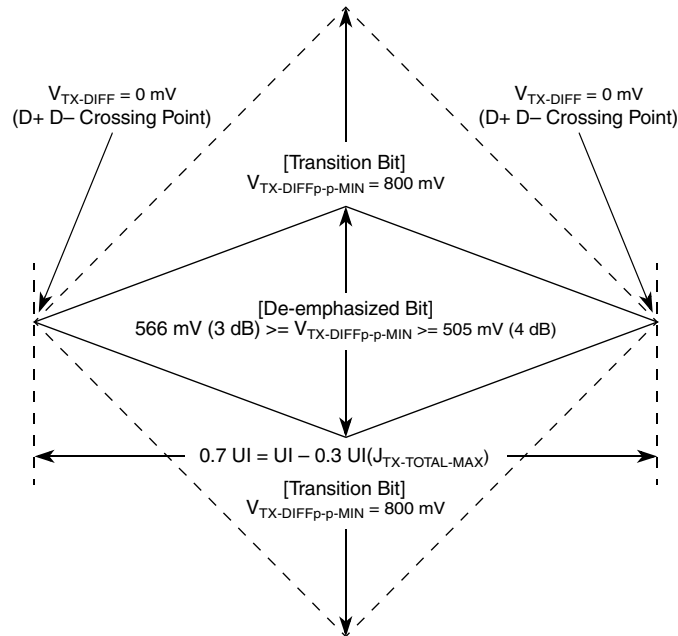
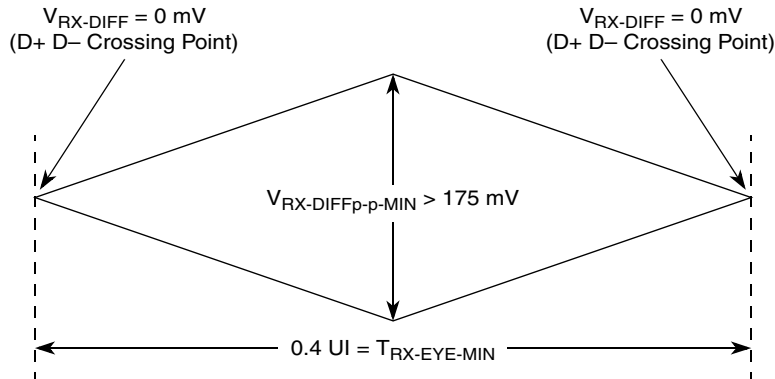
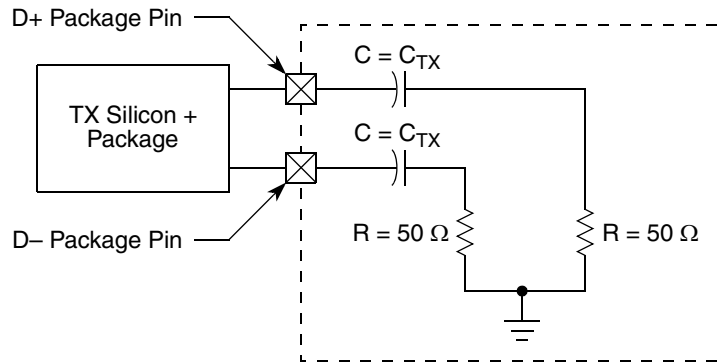

Figure 42. Minimum Transmitter Timing and Voltage Output Compliance Specifications
Figure 43. Minimum Receiver Eye Timing and Voltage Compliance Specification
Figure 44. Compliance Test/Measurement Load
2. Specified at the measurement point into a timing and voltage compliance test load as shown in Figure 44 and measured over any 250 consecutive Tx UIs. (Also refer to the transmitter compliance eye diagram shown in Figure 42.)
4. The transmitter input impedance will result in a differential return loss greater than or equal to 12 dB and a common mode return loss greater than or equal to 6 dB over a frequency range of 50 MT/s to 1.25 GHz. This input impedance requirement applies to all valid input levels. The reference impedance for return loss measurements is 50 Ω to ground for both the D+ and D– line (that is, as measured by a vector network analyzer with 50- Ω probes, see Figure 44). Note that the series capacitors, C_{TX} , is optional for the return loss measurement.
5. Measured between 20%–80% at transmitter package pins into a test load as shown in Figure 44 for both V_{TX-D+} and V_{TX-D-} .
The Tx eye diagram in Figure 42 is specified using the passive compliance/test measurement load (see Figure 44) in place of any real PCI Express interconnect + Rx component. There are two eye diagrams that must be met for the transmitter. Both diagrams must be aligned in time using the jitter median to locate the center of the eye diagram. The different eye diagrams differ in voltage depending on whether it is a transition bit or a de-emphasized bit. The exact reduced voltage level of the de-emphasized bit is always relative to the transition bit.
2. Specified at the measurement point and measured over any 250 consecutive UIs. The test load in Figure 44 should be used as the Rx device when taking measurements (also refer to the receiver compliance eye diagram shown in Figure 43). If the clocks to the Rx and Tx are not derived from the same reference clock, the Tx UI recovered from 3500 consecutive UI must be used as a reference for the eye diagram.
4. The receiver input impedance will result in a differential return loss greater than or equal to 10 dB with the D+ line biased to 300 mV and the D– line biased to –300 mV and a common mode return loss greater than or equal to 6 dB (no bias required) over a frequency range of 50 MT/s to 1.25 GHz. This input impedance requirement applies to all valid input levels. The reference impedance for return loss measurements for is 50 Ω to ground for both the D+ and D– line (that is, as measured by a vector network analyzer with 50-Ω probes, see Figure 44). Note that the series capacitors, C_{TX} , is optional for the return loss measurement.
The Rx eye diagram in Figure 43 is specified using the passive compliance/test measurement load (see Figure 44) in place of any real PCI Express Rx component. In general, the minimum receiver eye diagram measured with the compliance/test measurement load (see Figure 44) is larger than the minimum receiver eye diagram measured over a range of systems at the input receiver of any real PCI Express component. The degraded eye diagram at the input receiver is due to traces internal to the package as well as silicon parasitic characteristics that cause the real PCI Express component to vary in impedance from the
compliance/test measurement load. The input receiver eye diagram is implementation specific and is not specified. Rx component designer should provide additional margin to adequately compensate for the degraded minimum receiver eye diagram (shown in Figure 43) expected at the input receiver based on an adequate combination of system simulations and the return loss measured looking into the Rx package and silicon. The Rx eye diagram must be aligned in time using the jitter median to locate the center of the eye diagram.
The reference impedance for return loss measurements is 50 Ω to ground for both the D+ and D– line (that is, as measured by a Vector Network Analyzer with 50 Ω probes—see Figure 44). Note that the series capacitors, C_{PEACCTX}, are optional for the return loss measurement.
The AC timing and voltage parameters must be verified at the measurement point, as specified within 0.2 inches of the package pins, into a test/measurement load shown in Figure 44.